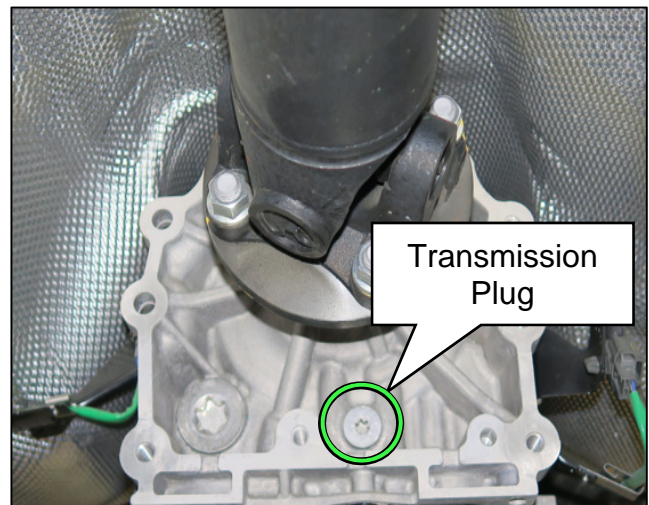

Figure 9
- Remove the Transmission Plug shown in Figure 9.